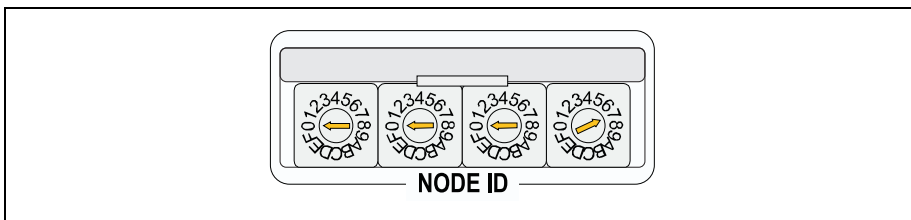

Figure 6-5 Final Configuration
- Set rotary switches 3 and 4 to 07. Figure 6-5 illustrates the final configuration of the Node ID switch settings.